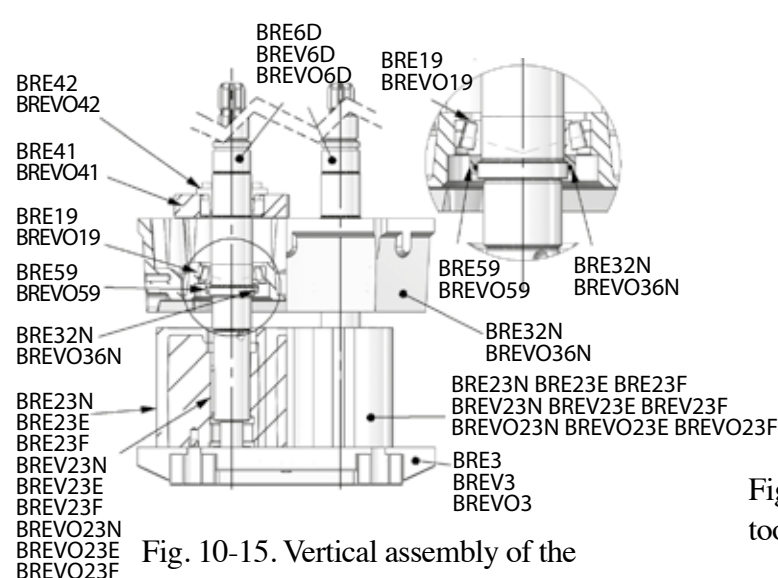

Fig. 10-15. Vertical assembly of the gearcase (step 1).
Slide the these rings with their O-rings into the shafts (BRE6D - BREV6D - BREVO6D) all the way to the end (Fig. 10-15); Slide the bearings (the rotating part) (BRE19 - BREVO19) onto the shafts (BRE6D - BREV6D - BREVO6D), using a rubber hammer, until they stop against the rings (BRE59 - BREVO59) (Fig. 10-15). Warning: protect the bearing during this step where insertion is performed with strikes of a hammer; Insert (Fig. 10-15) stationary rings for the bearings (BRE19 - BREVO19) into the seals support (BRE13 - BREVO13); Insert the two flaps (BRE34 - BREVO34) on the lobe side of the shafts (BRE6D - BREV6D - BREVO6D) with a rubber hammer; Place the rear cover on a flat surface (BRE3 - BREV3 - BREVO3) and slide the shafts (BRE6D - BREV6D - BREVO6D) into the lobes (BRE23N - BRE23E - BRE23F - BREV23N - BREV23E - BREV23F - BREVO23N - BREVO23E - BREVO23F) and the rear cover (BRE3 - BREV3 - BREVO3) (Fig. 10-15); Assemble the seals support (BRE13 - BREVO13), along with the stationary rings for the bearings, onto the shafts (BRE6D - BREV6D - BREVO6D) held up vertically; Insert a toothed wheel, having cleaned it beforehand, (BRE41 - BREVO41) and a shrink disk (BRE42 - BREVO42) onto a shaft (BRE6D - BREV6D - BREVO6D); Tighten the shrink disk screws (BRE42 - BREVO42) using a dynamometric key (6 mm hexagonal) in a gradual and uniform manner, and crosswise, as in (Fig. 10-16), final torque 41 Nm. After 41 Nm, perform the last step following the sequence above at 25 Nm.
Position the lobes at 30° by hand (Fig. 10-17), holding the pump in a vertical position as on (Fig. 10-15), insert the remaining toothed wheel (BRE41 - BREVO41) onto the shaft and, using a dynamometric key, tighten the screws (hexagonal 6mm) on the shrink disk (BRE42 - BREVO42) crosswise (Fig. 10-16) up to 20 Nm, lock the lobes at 30° using the awl between the toothed wheels, and tighten the screws in a gradual and uniform manner, and crosswise, as in (Fig. 10-16), final torque 41 Nm. D. After 41 Nm, perform the last step following the sequence above at 25 Nm.
Remove the rear cover (BRE3 - BREVO3 - BREVO3) and the lobes (BRE23N - BRE23E - BRE23F - BREVO23N - BREVO23E - BREVO23F) (Fig. 10-15).
Remove the two tabs (BRE34 - BREVO34 - BREVO34) (Fig. 10-15).